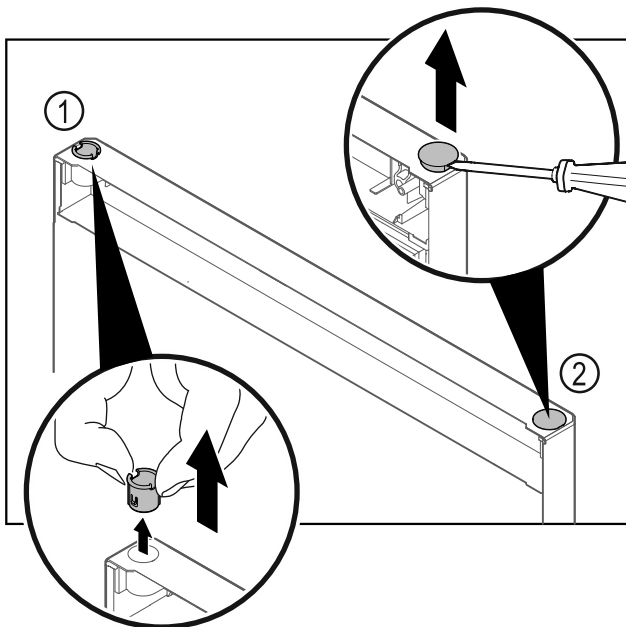

Fig. 38 Freezer compartment door
- ▶ Pull out the hinge bushing Fig. 38 (1) with your fingers.
- ▶ Carefully lift the cover plug Fig. 38 (2) with a slotted screwdriver and pull it out.